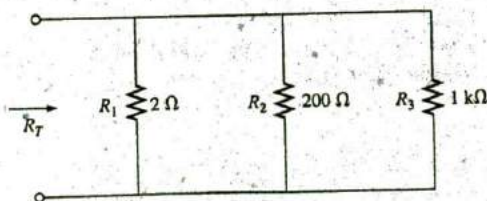

FIG. 6.5
- By inspection, which parallel element in Fig. 6.5 has the least conductance? Determine the total conductance of the network and note whether your conclusion was verified.